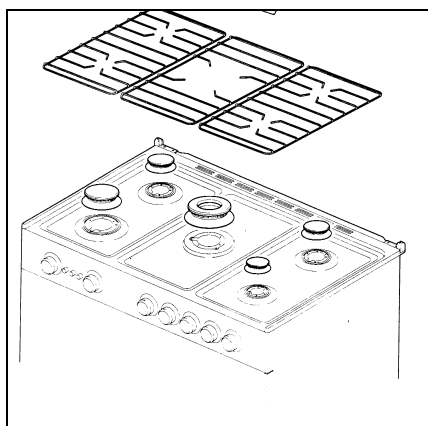

fig.11
- 2) Remove the grids from the work surface (Fig. 11).